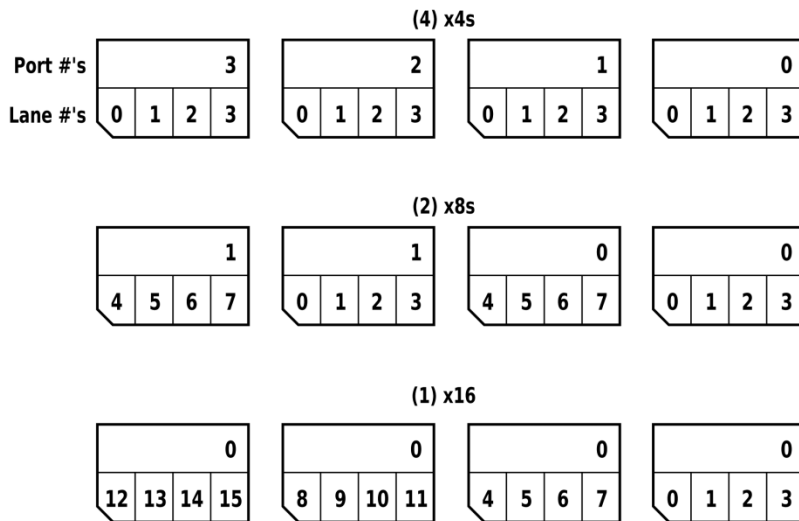
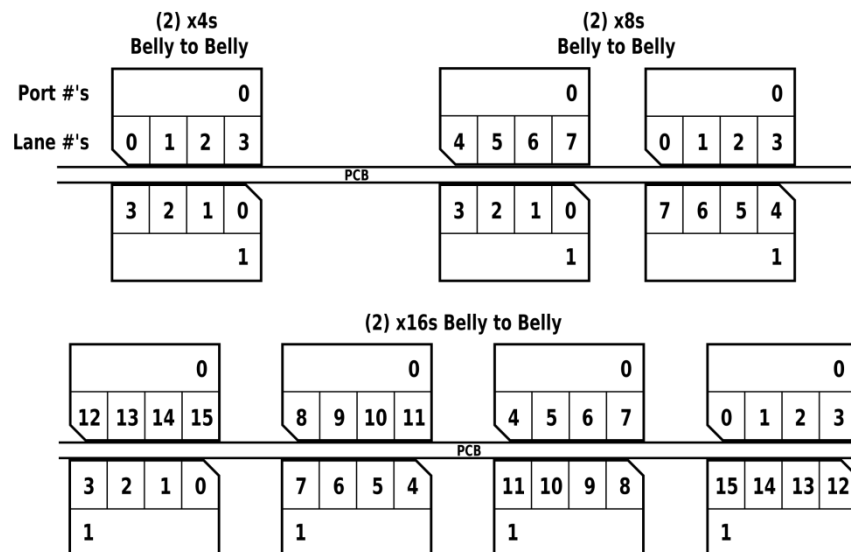

Figure 3-2. Port Aggregation for x4 Fixed Host Board-side Connectors with Uniform Orientation
Figure 3-3. Port Aggregation for x4 Fixed Host Board-side Connectors with Belly-to-Belly Orientation
- ☐ The x8 and x16 cables must provide the requisite number of x4 Free Cable-side connectors at each end. The relative positioning orientation of the Free Cable-side connectors must be constrained such that Lane ordering, as depicted by Figure 3-2 and Figure 3-3, is intuitively maintained when mating to the Host.
The basic Lane numbering and pin numbering for Fixed Host Board-side connectors is shown in Figure 3-1 for reference. OCuLink Ports (x4, x8, and x16) must be aggregated as shown in Figure 3-2 and Figure 3-3 and must meet the marking/labeling requirements listed in Section 8.